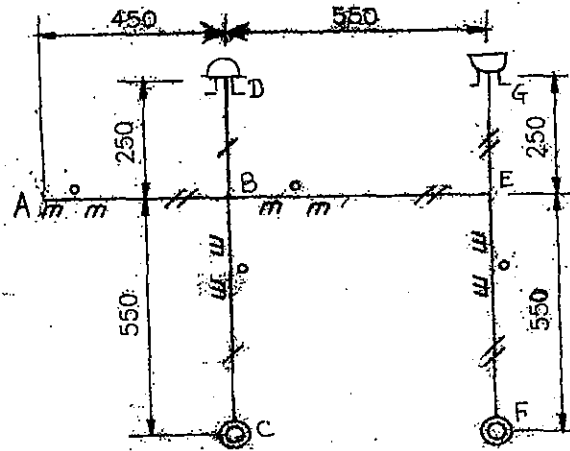

Figure 1.
- c) Study the following single line representation shown in Figure 1. and answer the following: